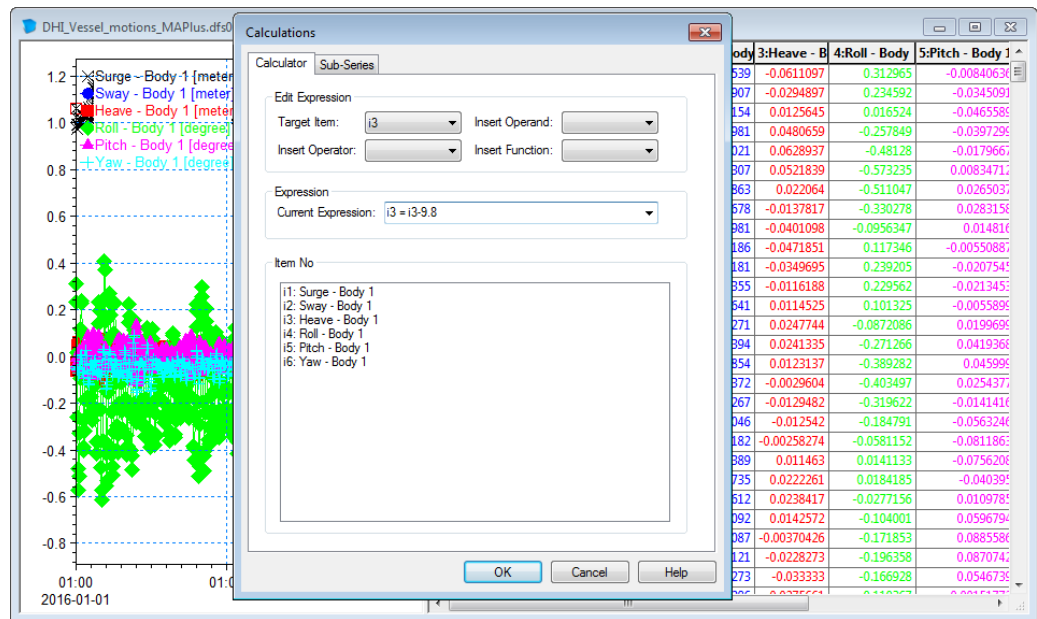

Figure 2-31 Modifying position of vessel to accommodate local coordinate system of 3Dsolid.
2. Subtract 9.8 m from the third item (Heave) to account for the Draft of the vessel (as defined in Table 2.1), see Figure 2-31. Press OK and save and close the file 'GenerateTSDData.mzt'.